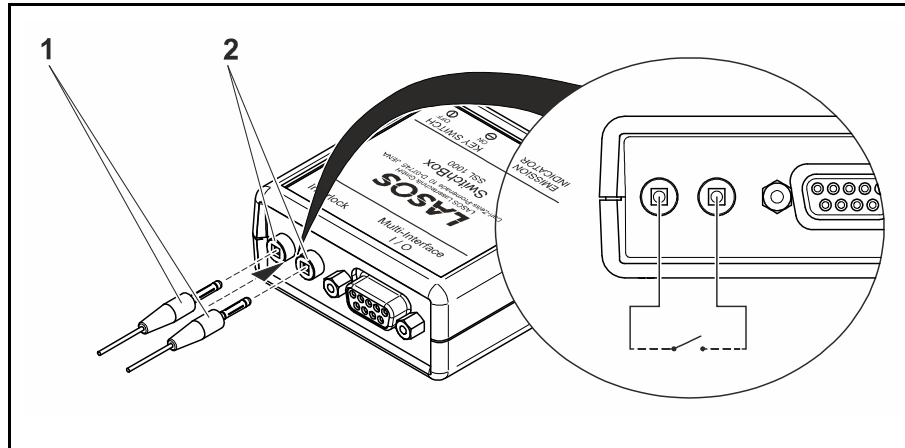

Fig. 14 Safety loop (Interlock)
- Connect the safety loop (Interlock, Fig. 14/2) to an appropriate external safety device. Use a 2 mm laboratory plug for connecting the safety loop (Fig. 14/1).